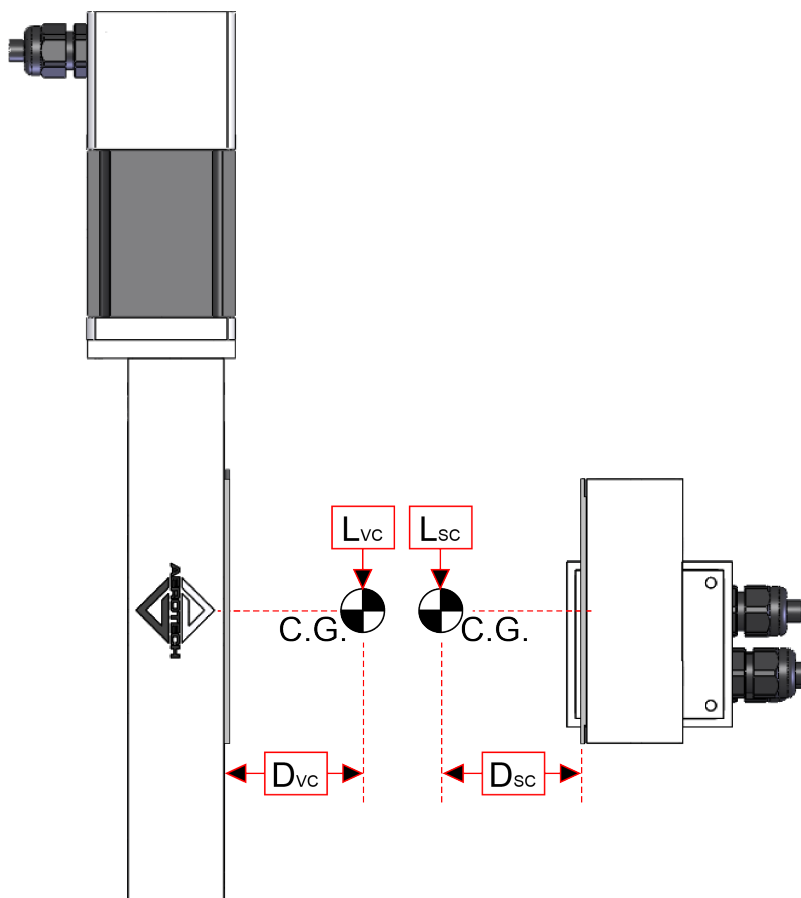
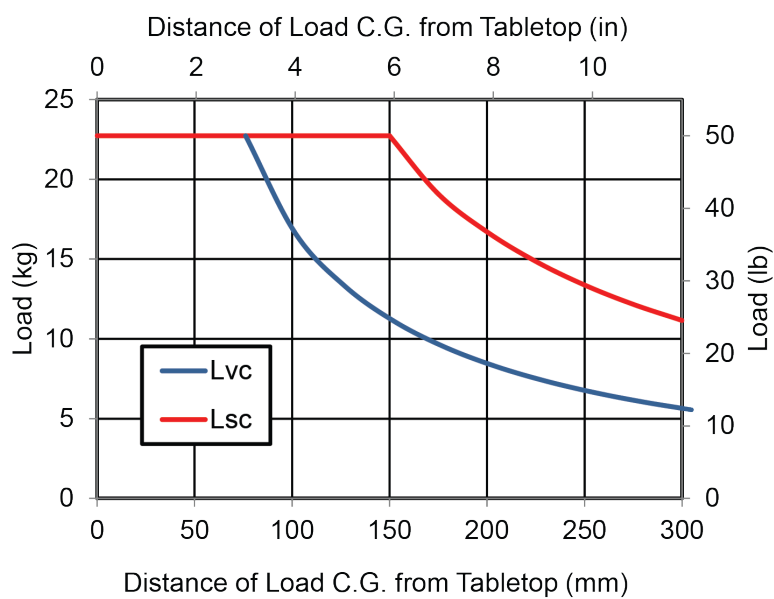

Figure 2-3: Load Orientations
Figure 2-4: Cantilevered Load Capabilities
If cantilevered loads are applied, refer to Figure 2-3 to find the loading condition. Refer to Figure 2-4 to find the maximum allowable load.
2. When the application load is cantilevered, determine the length of the cantilever and find the corresponding maximum load (rated load) from Figure 2-4. Divide the actual load by this value and multiply by 100 to get the percentage ratio. For example, an application load weighs 10 pounds and is situated on a horizontal stage with a cantilever length of 6 inches. The rated load for this situation, read from the Lsc curve in Figure 2-4, is approximately 13 pounds. The percentage ratio is: $10/13 \times 100 = 77\%$